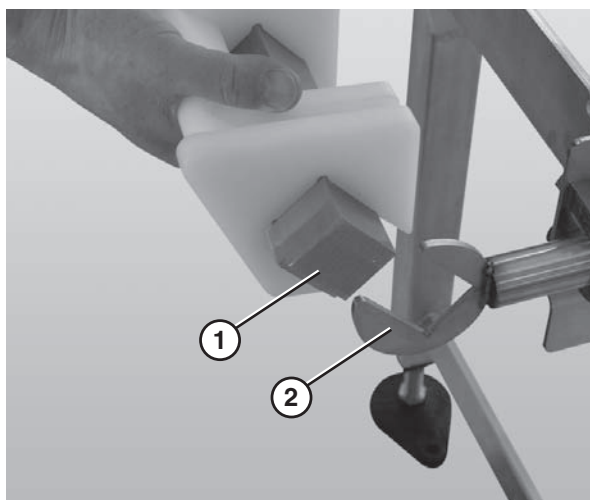

Figure 23
4. Attach the nose bar transfer post (Figure 23, item 1) to the nose bar idler shaft hands (Figure 23, item 2).